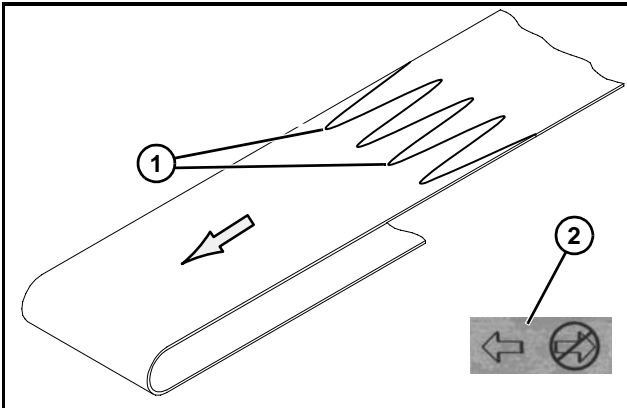

Figure 60
2. Orient belt so splice leading fingers (**Figure 60, item 1**) point in the direction of belt travel as identified by the conveyor directional label (**Figure 60, item 2**).